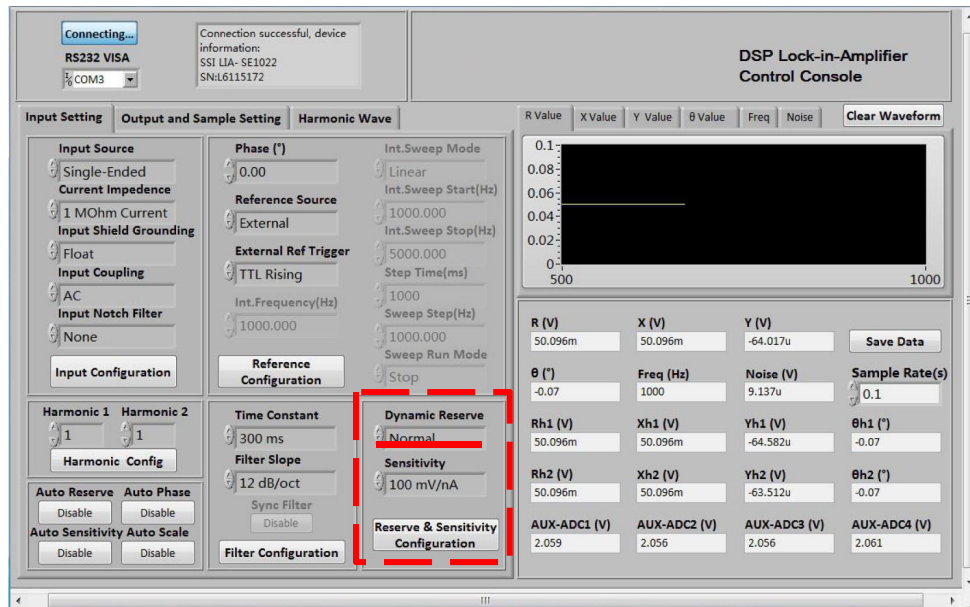
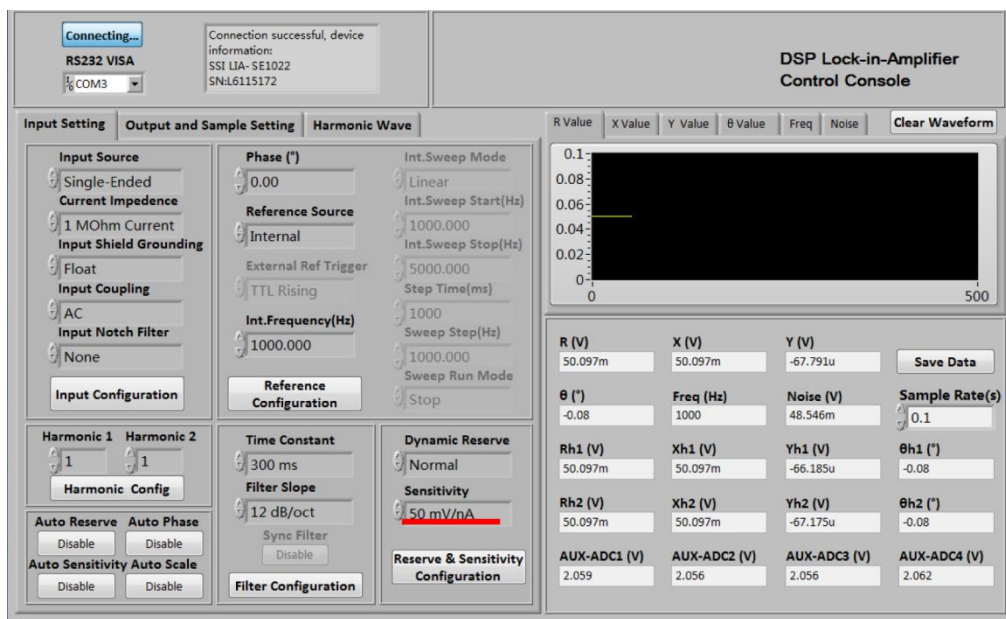

Fig.77 Reserve & Sensitivity Configuration
Fig.78 Auto Sensitivity Configuration
4. Choose these two options in “Reserve & Sensitivity Configuration”, including “Dynamic Reserve” and “Sensitivity” with other options in default, as is shown in Fig.77. At last, click the button **Reserve & Sensitivity Configuration** to finish the configurations.
Use “**Auto Sensitivity**” to set sensitivity. Click the button **Disable** in Auto Sensitivity option. Then this button displays “Processing...” This means the SE1022 is executing auto sensitivity function. And after finishing this function, this button will reset to the original status **Disable**. Now the “**Dynamic Reserve**” and “**Sensitivity**” options will update to the values returned by SE1022. At this time, the “**Sensitivity**” option change to a suitable one contrasting with Fig.77, as is shown in Fig.78.